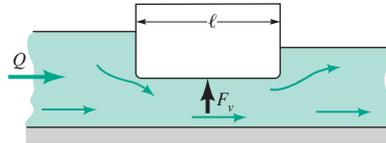

FIGURE P7.37
**7.37** Water flowing under the obstacle shown in Fig. P7.37 puts a vertical force,  $F_v$ , on the obstacle. This force is assumed to be a function of the flowrate,  $Q$ , the density of the water,  $\rho$ , the acceleration of gravity,  $g$ , and a length,  $\ell$ , that characterizes the size of the obstacle. A 1/20-scale model is to be used to predict the vertical force on the prototype. (a) Perform a dimensional analysis for this problem. (b) If the prototype flowrate is 1000 ft3/s, determine the water flowrate for the model if the flows are to be similar. (c) If the model force is measured as  $(F_v)_m = 20$  lb, predict the corresponding force on the prototype.